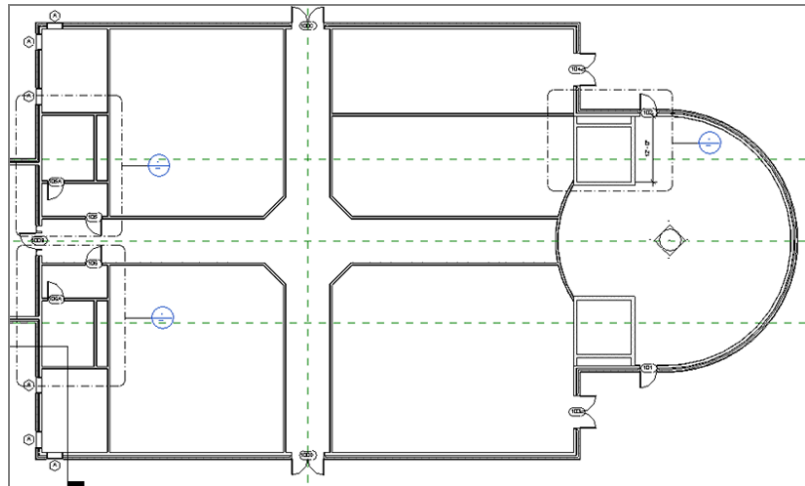

FIGURE 3.68: The plan showing the three typical callouts
13. Create one more callout around the elevator shaft in the east wing, as shown in Figure 3.68.